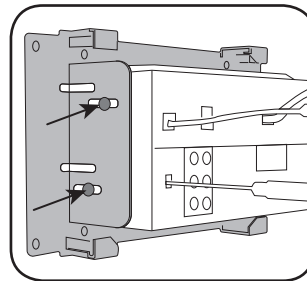

Fig. 1.14
1. Unbox the aftermarket radio. Install the metal bracket provided with the VW1 kit to the aftermarket radio using the screws supplied with the aftermarket radio. (Fig. 1.14)